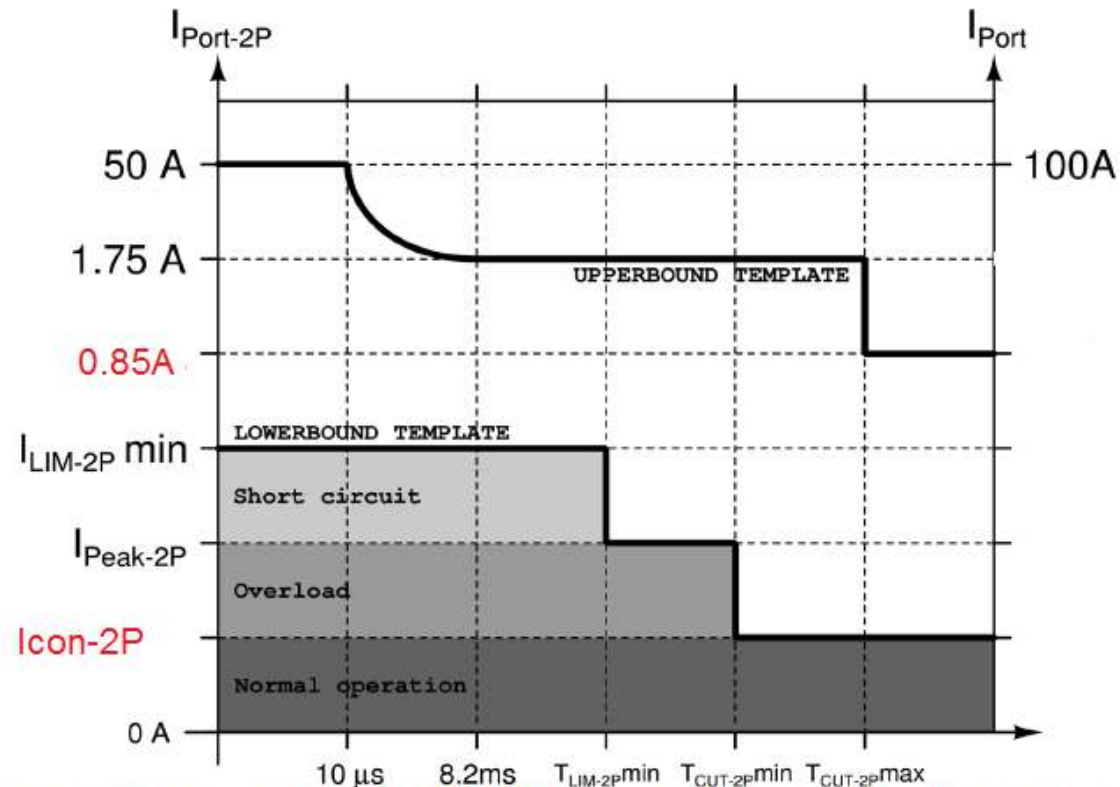

Figure 33-14a—POWER_ON state, per pairset operating current templates for Type 3 PSEs in 4-pair mode connected to single-signature PDs
Insert new Figure 33-14a as follows:
1. Replace Figure 33-14a title with:
Figure 33-14a – POWER_ON state, operating current templates for Type 3 and Type 4 PSEs operating in 2P-mode or Type 3 and 4 PSEs operating in 4P-mode when connected to dual signature PD with different class signature on each pairset.